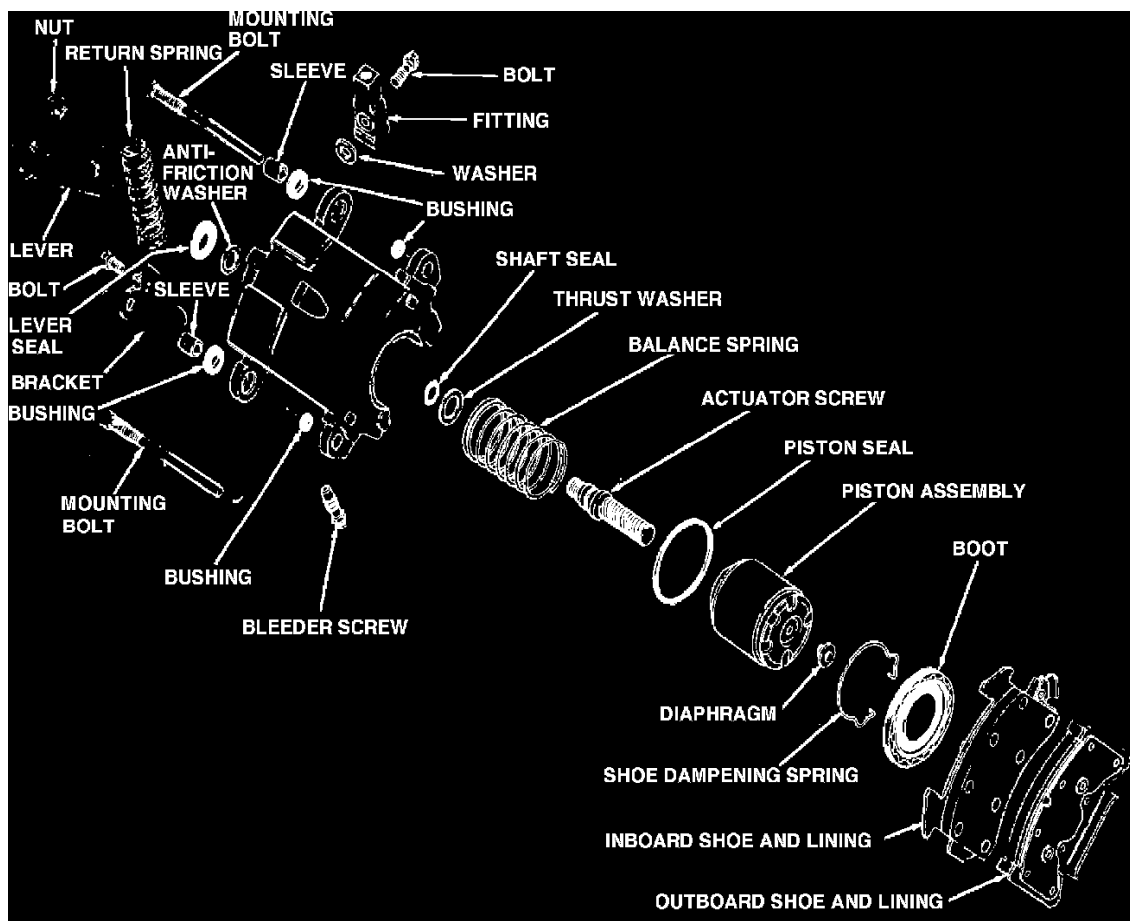

Fig. 2 Rear disc brake caliper exploded view. Eldorado, Firebird, Riviera, Seville, Toronado & 1982---86 Camaro
1. Clamp caliper in a vise and remove the two mounting sleeves and four bushings, Fig. 2.